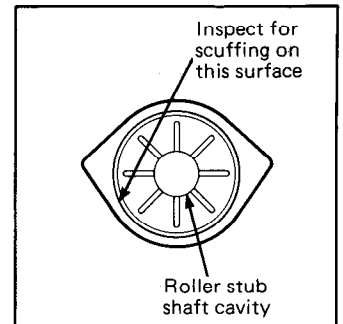

Figure 4. Roller Bearing Cage
- c. Replace the nylon bearing cage if the roller cavity has worn enough to allow the roller to scuff the bearing cage. See Figure 4.